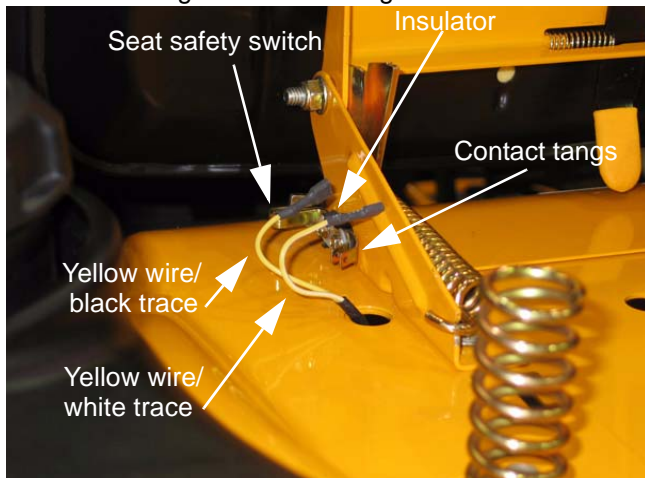

Figure 39.7
39.7. The **Seat Safety Switch** consists of a pair of simple metal contact tangs attached to the seat mounting bracket. See Figure 39.7.